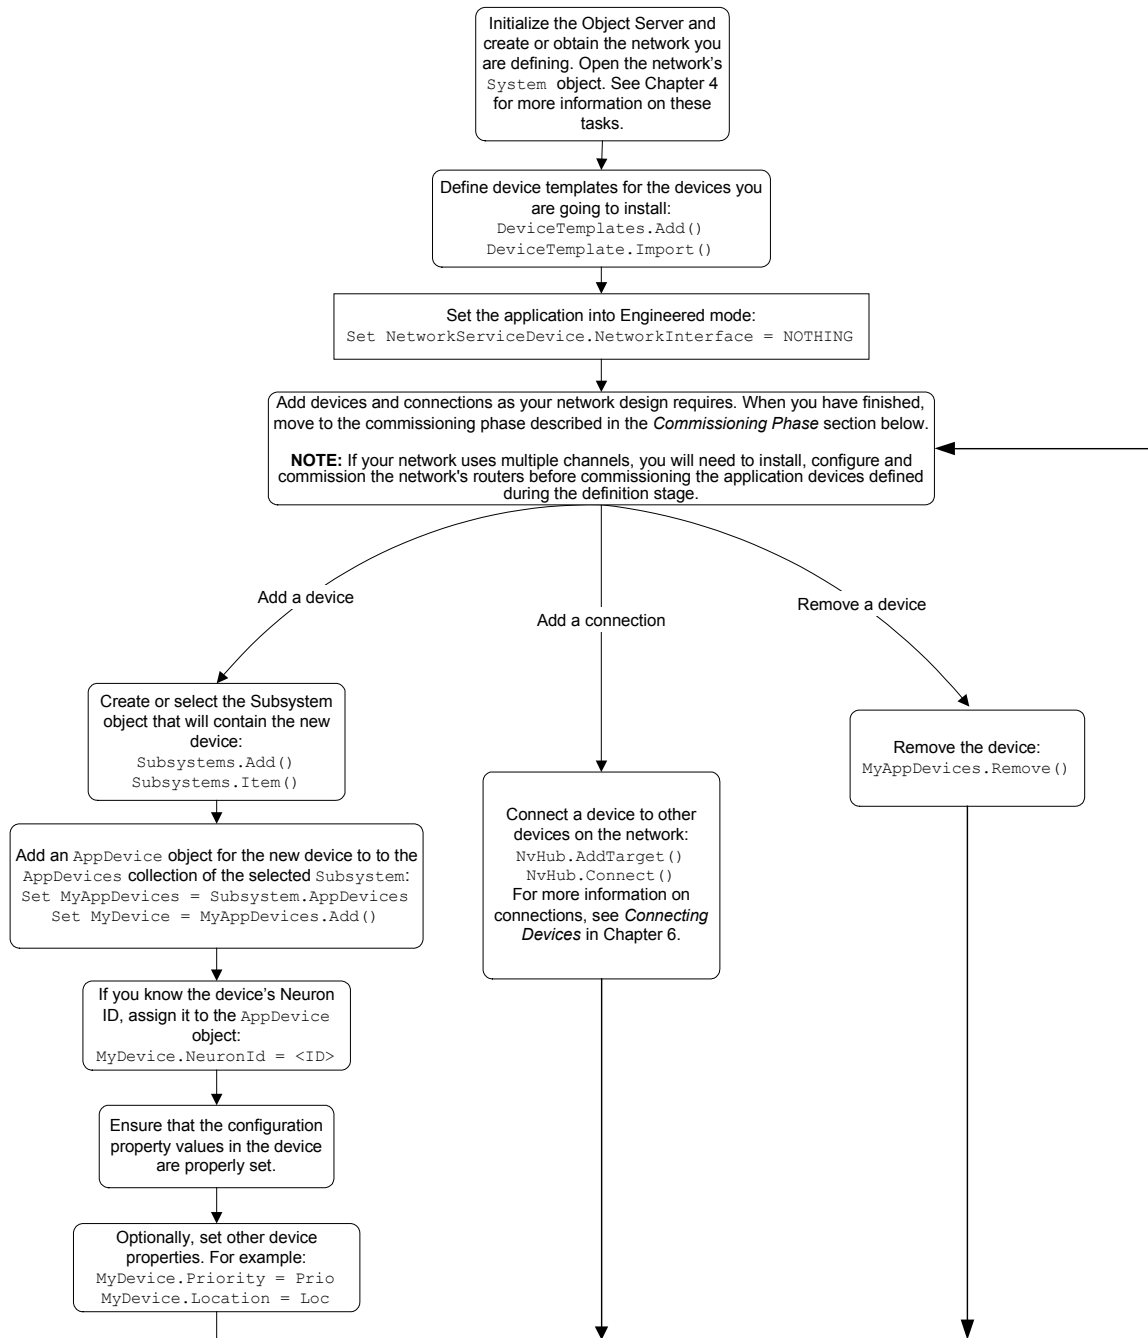

Figure 5.2 Engineered Mode Installation Tasks - Definition Phase
The steps you need to follow to accomplish the tasks involved in the definition phase are shown in figure 5.2. They are described in more detail in the section following figure 5.2.
The following section describes the steps listed in figure 5.2 in more detail:
9. Figure 5.2 references additional tasks you may need to perform when managing a network installed with this installation scenario, such as removing devices and connections from the network. For details on how to perform these tasks, see *Other Device Management Operations* on page 129.